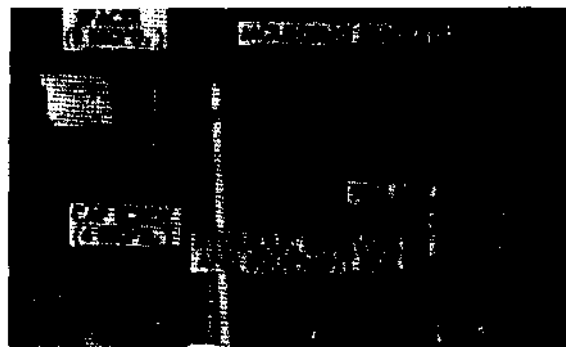

Figure 431. Hydraulic reservoir and equipment box mounting at tight side rail
- (3) Remove four safety nuts (fig. 431), two on each side, securing hydraulic reservoir and equipment box to mounting brackets attached to left and right frame side rails.
- (3) Install four safety nuts (fig. 431), two at each side, on cap screws. Tighten nuts.